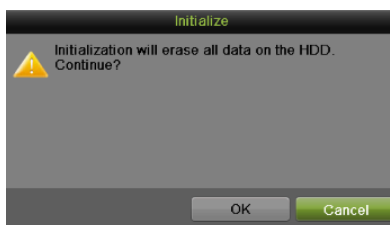

Figure 127 Disk Format Confirmation
4. A confirmation message, similar to the one shown in Figure 127 will appear on the screen. Click OK to continue formatting process.